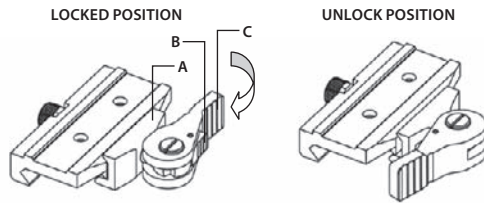

FIGURE 3-4. MOUNT. TOP VIEW
3. Unlock the clamping device (A) of the Apollo mount by pushing down on the dog (B, see Figure 3-4) and unlocking the cam lever (C).
5. Affix the Apollo to the rail by locking the cam lever (C, see Figure 3-4).